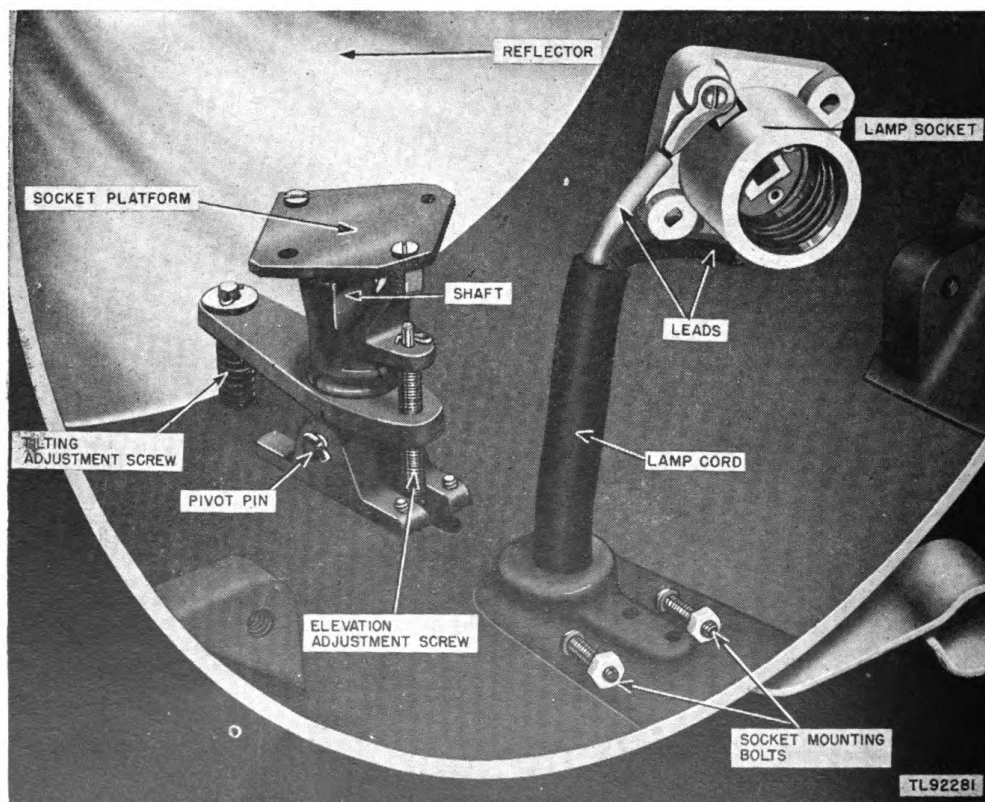

Figure 6. Signal Lamp M-124, socket removed from platform.
8. Signal Lamp M-124 (fig. 6).